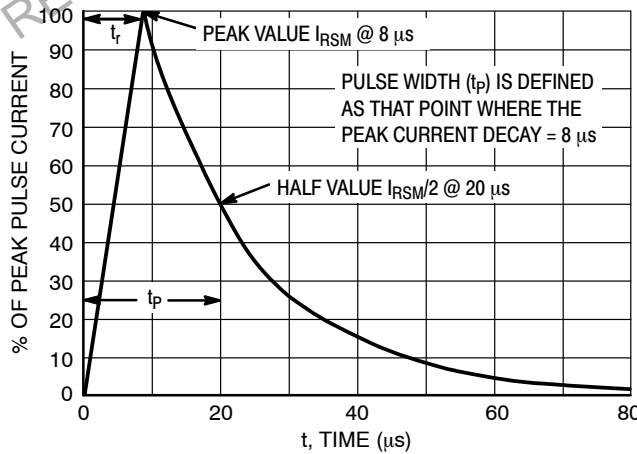

Figure 10. 8 x 20 μs Pulse Waveform
2. Non-repetitive current pulse at T_A = 25°C, per IEC61000-4-5 waveform, See Figure 10.